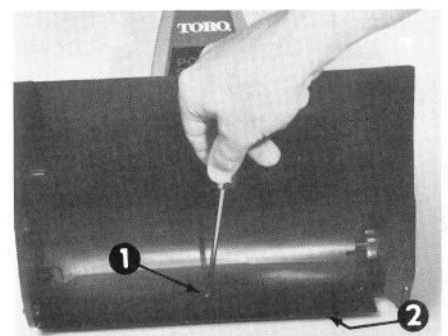

Figure 14
2. Remove the three screws and locknuts used to hold the scraper blade in place. Remove scraper blade (Fig. 14).